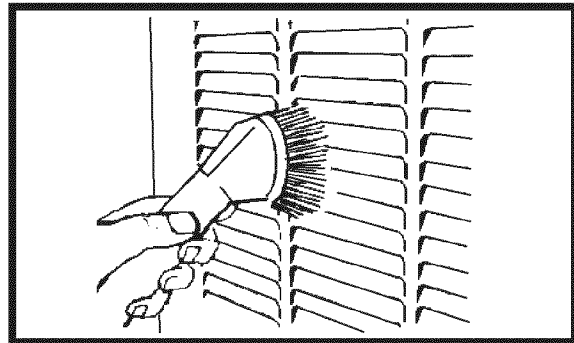

Figure 38. Periodic Cleaning
- On some closet installations, the return air opening to the furnace may be on the floor, in the door, in the side wall of the closet, or any combination of these. The upper grille on the front of the furnace admits return air to the blower. Return air must be provided back to the circulating blower in order to provide air distribution. See Figure 38.